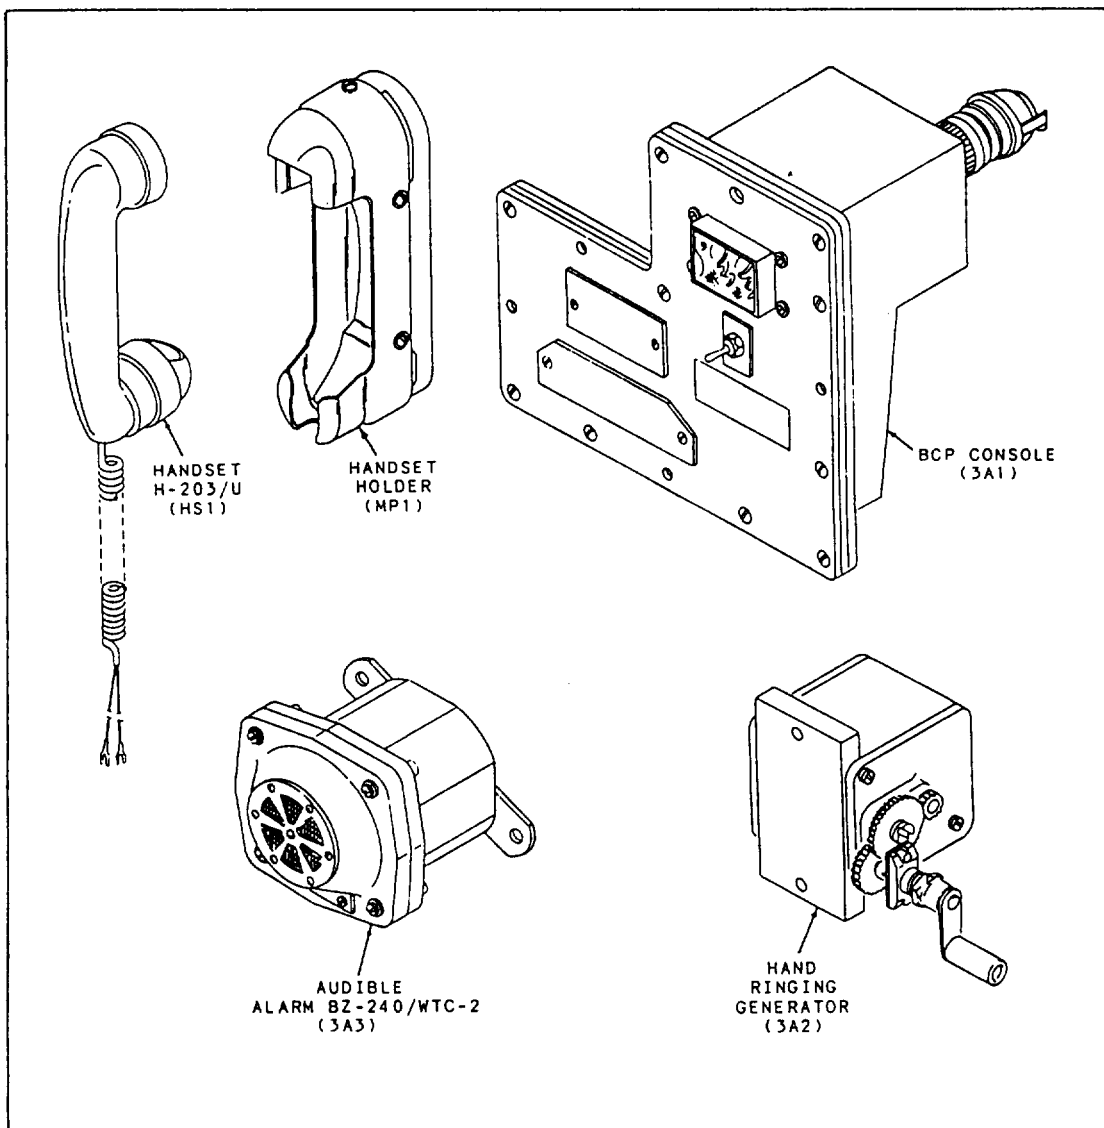

Figure 5-28.—The TA-975/WTC-2(V) sound-powered telephone set, unit 3.
**UNIT 3.**— Unit 3 (fig. 5-28) is a console-mounted terminal station consisting of four separate components: BCP console 3A1, hand-ringing generator 3A2, audible alarm BZ-240/WTC-2(V), and handset HS1. BCP console 3A1 and hand ringing generator 3A2 serve the